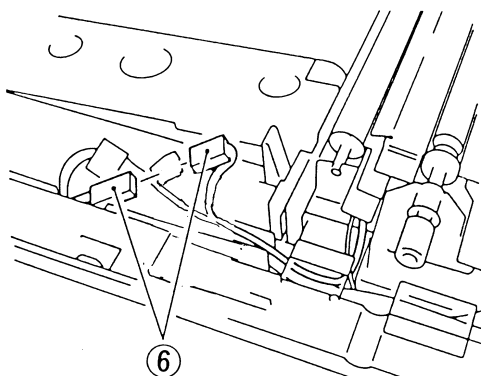

Figure 10-230
- 9) Connect the connector ⑥ as shown in Figure 10-230.